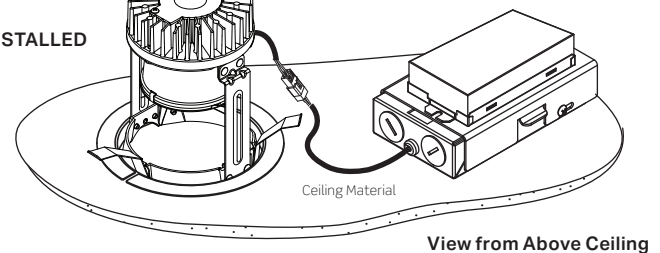

FIGURE 4
**NOTE:** Hangers should be level with bottom of the joists (FIGURE 4)